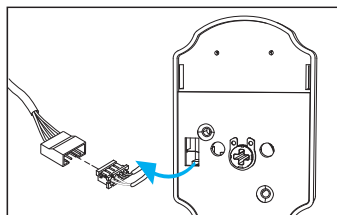

Fig. 10
**Step 4.** Gently feed the other power cable through the hole of inside section to snap it into the cable connectors. Then feed the connected power cable into the hole of door (Fig. 10).